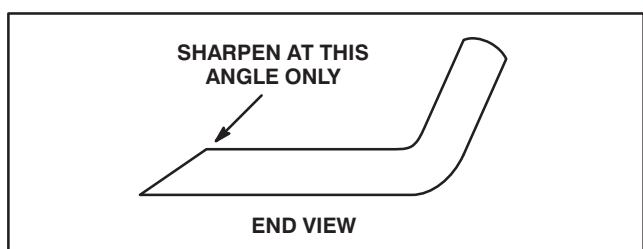

Figure 28
3. Inspect cutting edges of all blades. Sharpen the cutting edges if they are dull or nicked. Sharpen only the top of the cutting edge and maintain the original cutting angle for best performance (Fig. 28). The blade will remain balanced if same amount of metal is removed from both cutting edges.